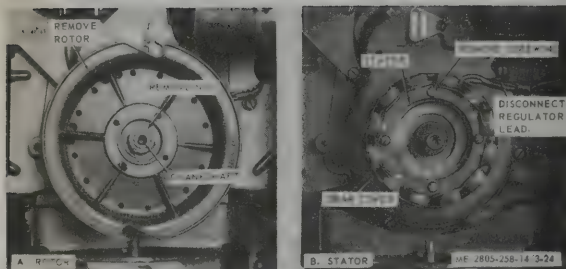

Figure 3-24. Alternator, removal and installation.
a. *Removal.* Refer to figure 3-24 and remove alternator.
(1) Clean rotor and stator with an approved cleaning solvent and dry thoroughly.
(2) Inspect the rotor for cracks, breaks, and other damage.
d. Installation. Refer to figure 3-24 and install alternator.